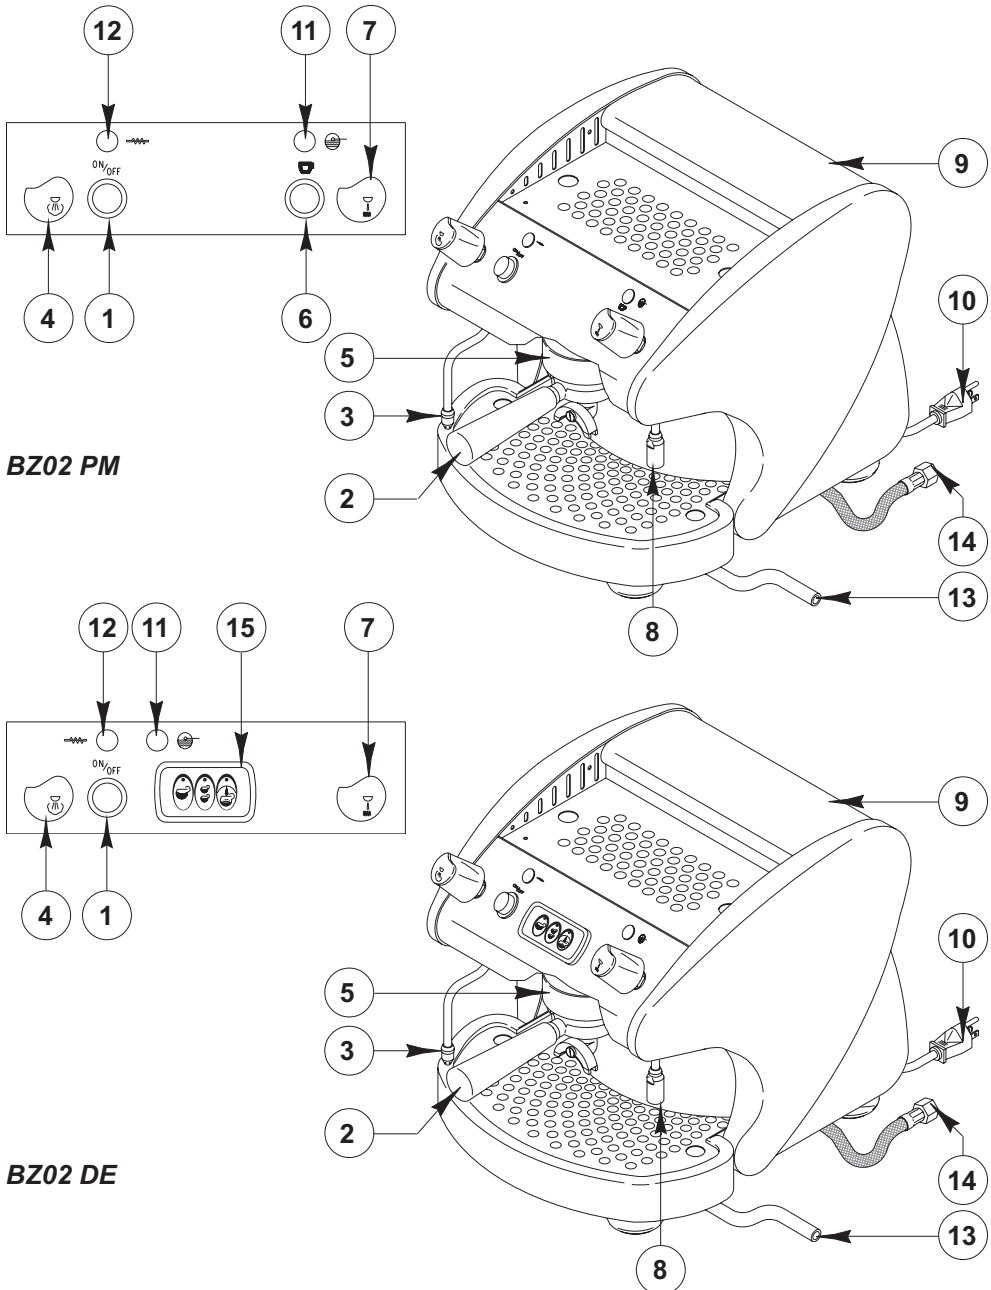

Fig. 1
Provide an intercepting tap upstream the machine connection (fig. 1; pos. 14).
A nipple G 3/8 " is provided for the water supply connection (fig. 1; pos. 14).
Connect a rubber pipe with inner diameter of 10 mm to the arranged connector of the machine drain well (fig.1; pos. 13) and join it with the open drain-trap, previously prepared.
Fill the wather tank, S version (fig.1; pos. 9).
Press the switch ON/OFF (fig.1; pos. 1).
In order to have the right temperature for the machine, turn the steam knob (fig. 1; pos. 4) and let out 2 or 3 times the steam into the drain tray.
The green light (fig. 1; pos. 12), if on, points out the resistance activation.